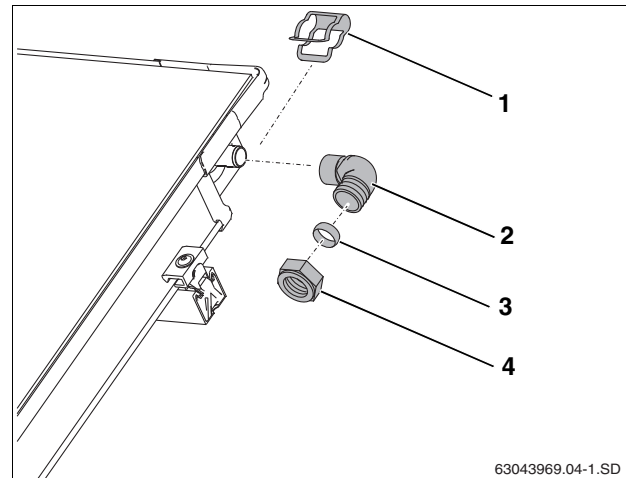

Fig. 57 Installing supply pipe (with no vent on roof)
- ▶ Push elbow (Fig. 57, [2]) with compression ring and compression nut onto collector connection.
- ▶ Secure elbow with clip (Fig. 57, [1]).